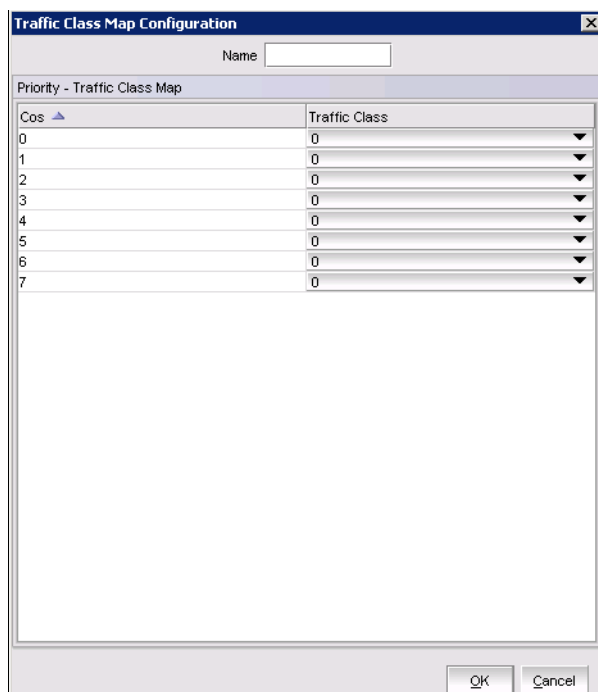

Figure 5-12 Traffic Class Map Configuration dialog box
3. The Traffic Class Map Configuration dialog box is displayed (Figure 5-12 on page 158). Make the appropriate entries in the following fields: